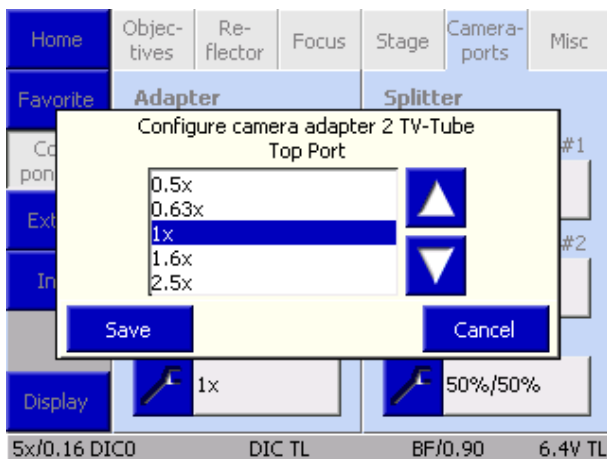

Fig. 4-74 Selecting the camera adapter
- To assign an adapter to a button, press the gray button. This will bring up the **Select Camera Adapter** list (Fig. 4-74).